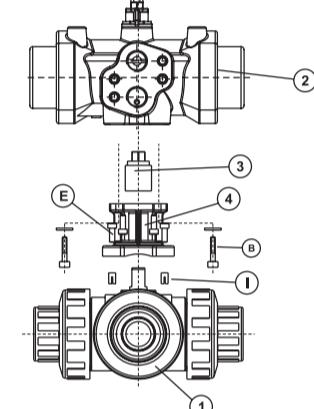

Fig. 19
5. Remove the screws (E, Fig. 19).
6. Separate the pneumatic actuator (2) with the mounting clamp (4) from the bare shaft valve (Fig. 19).
7. Remove the screws (B) in order to dismantle the actuator from the mounting clamp.
8. In the case that the actuator needs to be replaced by a handle, also remove the coupling bush (3, Fig.19).